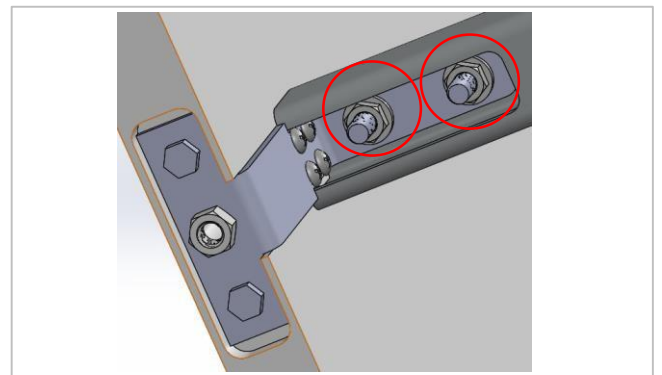

Figure 6
7. Install 5/16-18 serrated flanged nut on the underside of the bracket. 2 for each end of footer bar. (Figure 6 Circled)